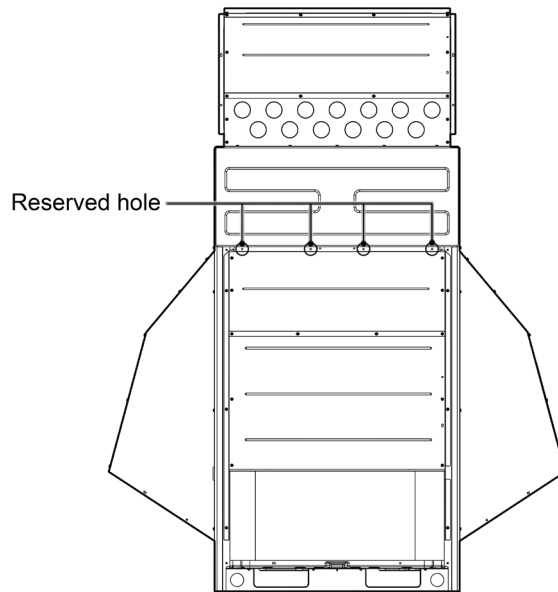

Fig. 3.20
(2) Reserve the locating hole as is shown in Fig 3.20. Drill 4 screw holes on the side plate of the unit with the drill  $\Phi 3.8$ , please pay attention to the drilling depth to avoid damaging the components nearby, otherwise, the unit might lose efficacy. Fix it with 4 screws.